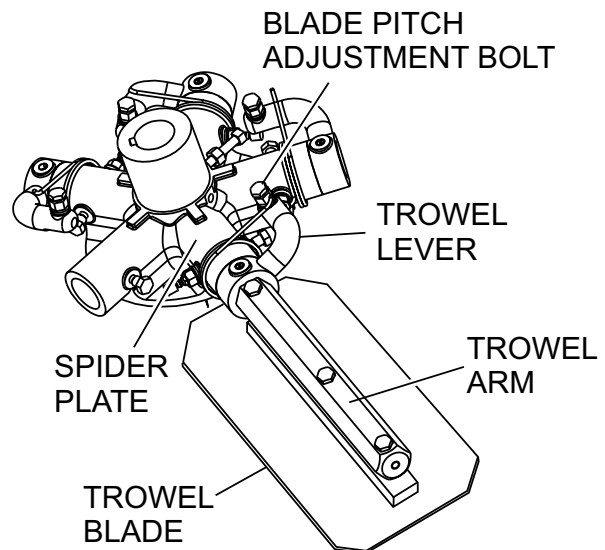

Figure 36. Blade Pitch Adjustment
1. Adjust blade pitch adjustment bolts as necessary to ensure machine operates smoothly (Figure 36).